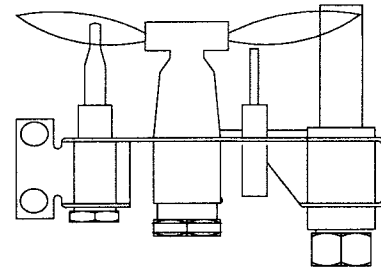

Figure 25. Pilot Burner
2. Adjust pilot key to provide properly sized flame. (See figure 25.)